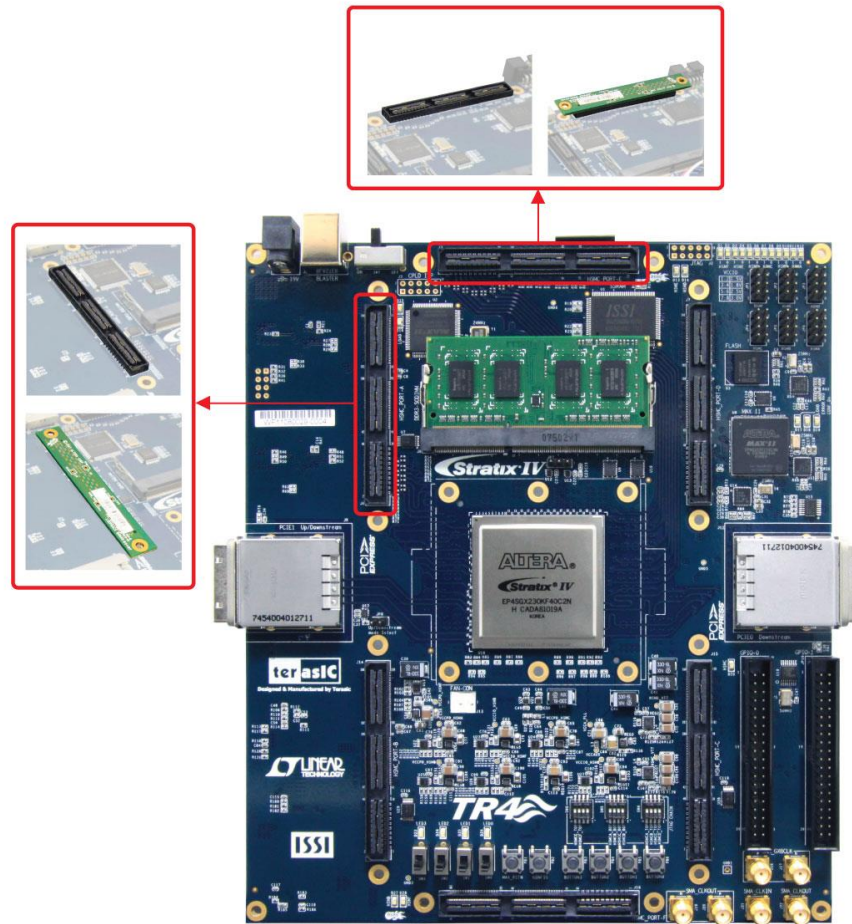

Figure 5-5 HSMC Loopback Design Setup
- Insert the HSMC loopback daughter card onto the HSMC Port E as shown in Figure 5-5.